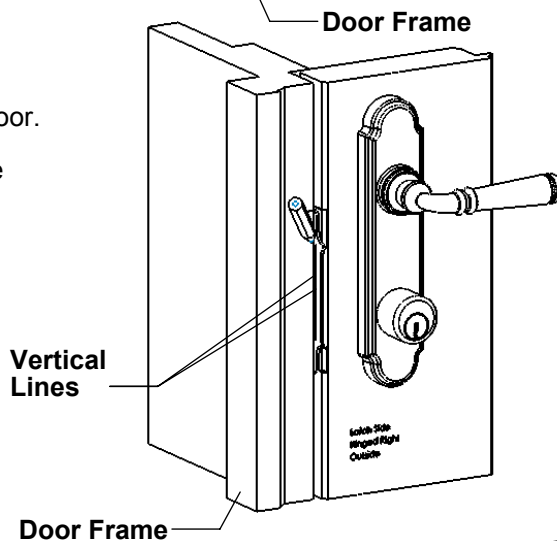

Figure 6
Step 12. Note: This step is performed standing outside the door. Place the **LATCH STRIKE** with the flange facing toward the outside door surface and away from the edge of the door over the livebolt. Hold the **LATCH STRIKE** in place and close the door. Hold the **LATCH STRIKE** vertical and push it toward the inside of the door and draw a vertical line on the underside of the flange on the **LATCH STRIKE** along the edge of the door frame. Continue to hold the **LATCH STRIKE** vertical and pull it away from the inside of the door and draw a second line on the flange on the **LATCH STRIKE** along the edge of the door frame. Note: These two lines drawn on the **LATCH STRIKE** will be parallel and approximately 1/8" apart. See Figure 6.